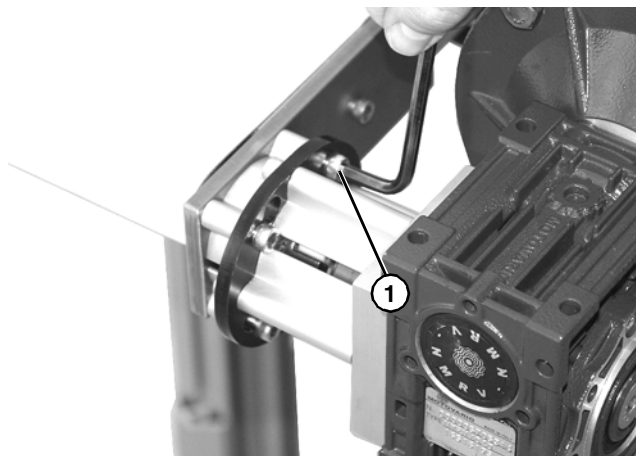

Figure 8
10. Tighten four M6x30 mounting screws (**Figure 8, item 1**) to 60 in-lb (7 Nm).